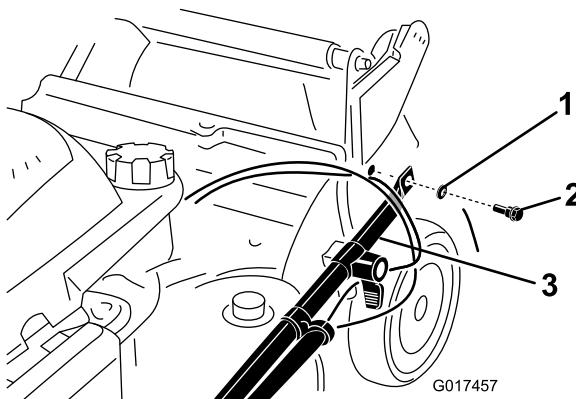

Figure 4
2. Attach the handle ends to the machine housing with 2 washers and 2 handle bolts (Figure 4), but **do not tighten the handle bolts**.
**Important:** Route the cables to the *outside* of the handle (Figure 4).